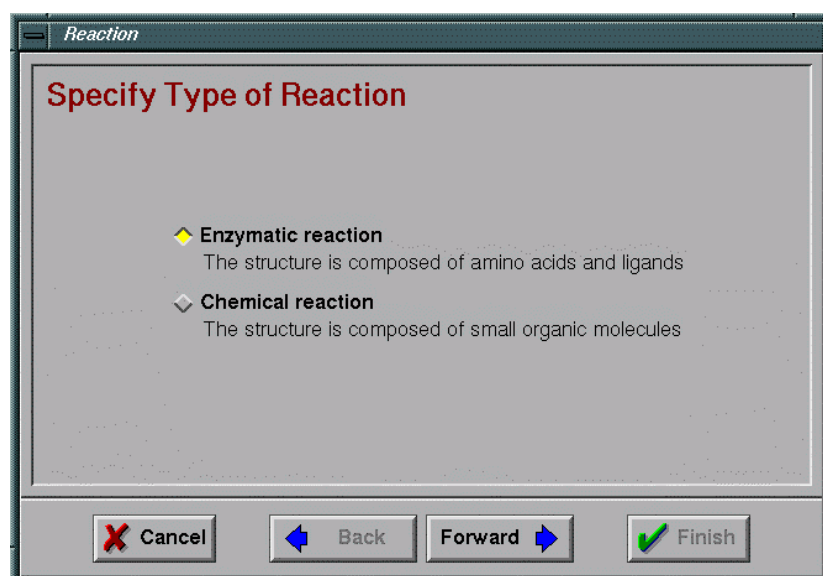
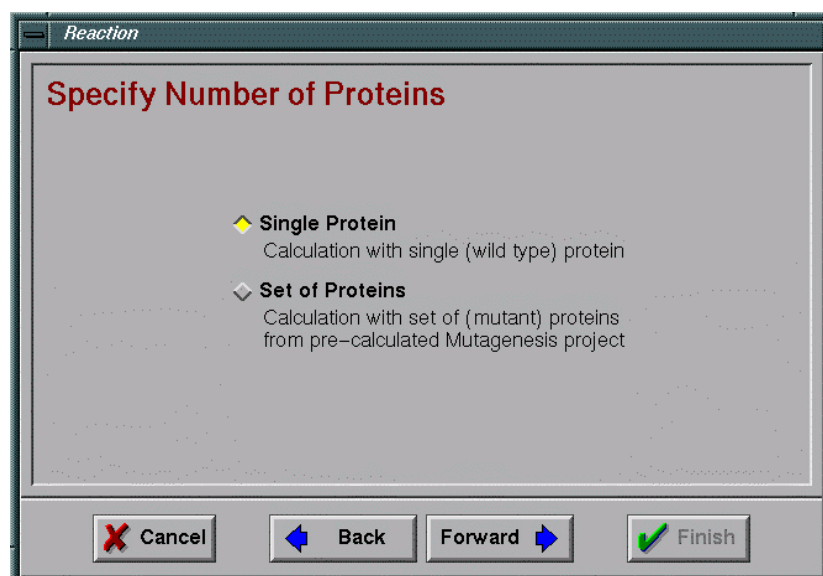

Fig 13.5 Window for specification of reaction type
Fig 13.6 Window for specification of the number of protein structures
- 4) Specify the type of reaction you wish to model using MOPAC/DRIVER (**Fig 13.5**). You can choose between enzymatic and chemical reaction. *Enzymatic reaction* assumes that you are dealing with protein structure consisting of amino acids and ligands, while *Chemical reaction* assumes the study of small organic molecules.
- 5) Specify the number of protein structures you will use for reaction mapping (**Fig 13.6**). *Single protein* option allows you to perform calculation with only one protein, while the *Set of Proteins* option allows you to perform calculations on entire set of proteins originating from previous mutagenesis project. *Set of Proteins* option is unavailable if no previous mutagenesis project is present in any of TRITON opened projects.
- Start a new reaction project (**Fig 13.2** and **Fig 13.3**) and specify its type as *Enzymatic reaction* (**Fig 13.5**) and a number of proteins as *Single protein* (**Fig 13.6**).